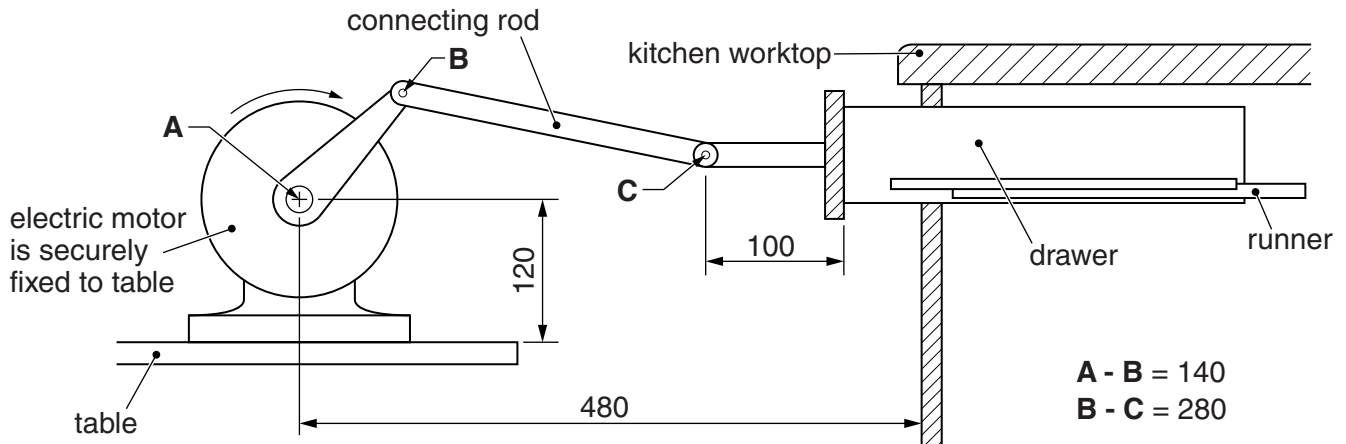

Fig. 5
- 4 Fig. 5 shows a test rig. The crank and slider mechanism pulls out and pushes in a drawer to test the runner mechanism.